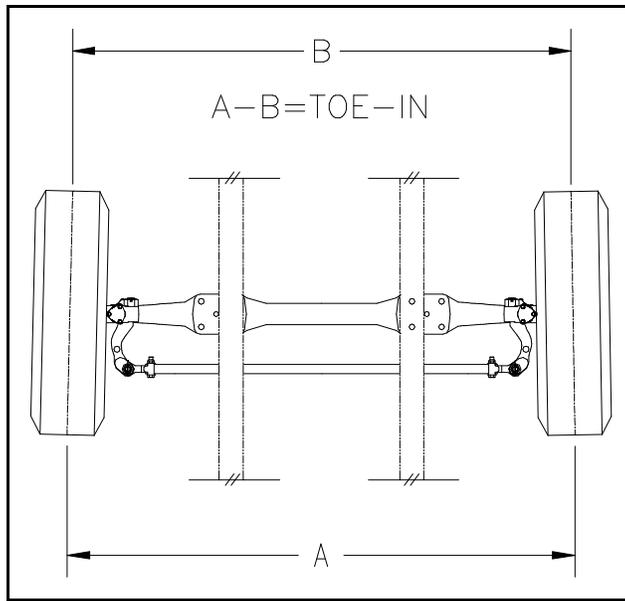

Figure 7-3
3. Toe-in is usually measured from center of treads at height of wheel centers. (See Figure 7-3) This measurement should always be made with the wheels in straight-ahead position and after vehicle has been moved forward to take up all play in steering connections.
NOTE: Always recheck toe-in after any change in caster or after altering tie rod. (See Figure 7-3)